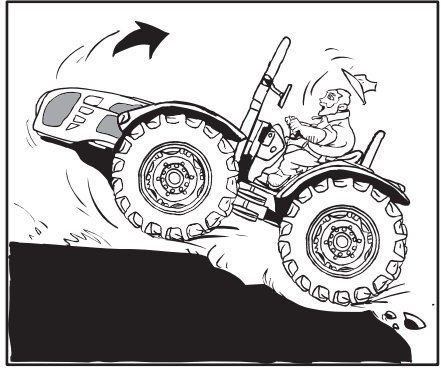

Fig. 2.17
- If the tractor is mired in mud or stuck in the ground, do NOT attempt to exit by driving forward. The tractor could rotate on its rear tires and overturn (Fig. 2.17). Lift or remove the installed implements and try to MOVE IN REVERSE. If this is not possible, tow the tractor out with another vehicle.